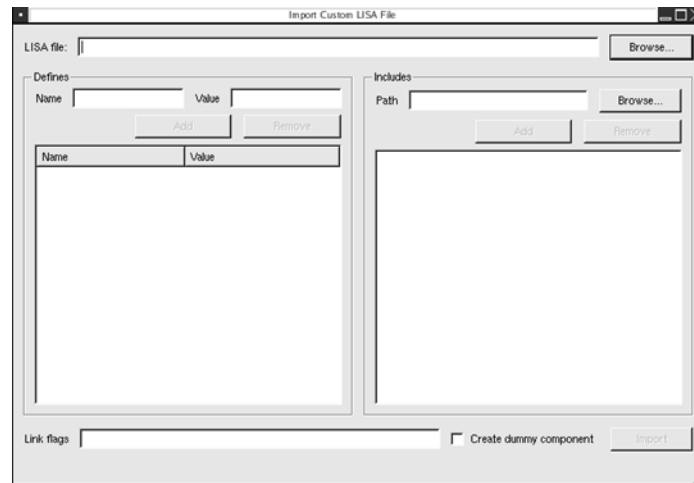

Figure 6-2 Import Custom LISA File dialog
1. Click the **Add** button in the "Custom LISA Files" section. This displays the Import Custom LISA File dialog (Figure 6-2).